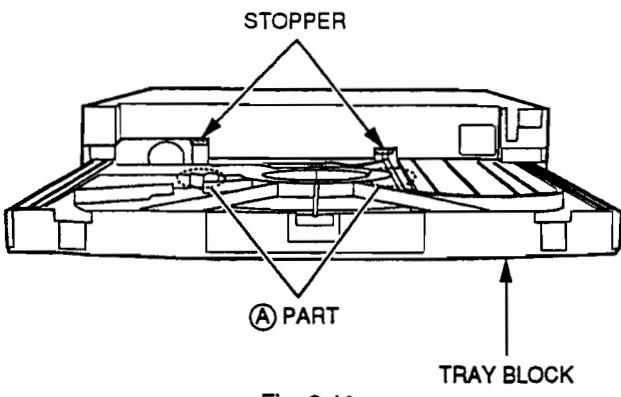

Fig. 3-10
2) In order to disengage the two stoppers, carefully press the  part of the TRAY BLOCK downwards while pulling the TRAY BLOCK out as shown in Fig. 3-10.